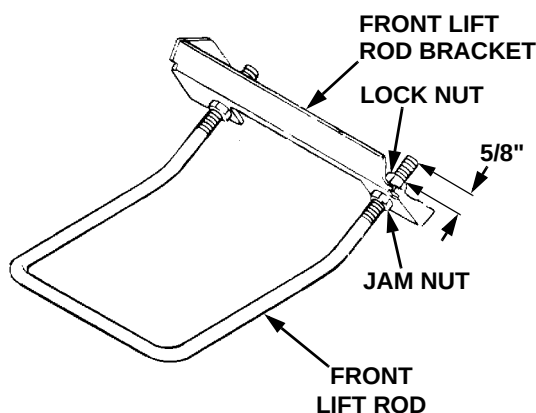

Figure 59
- If making the initial installation of the deck, adjust the front lift rod to allow $5/8$ inch of thread to protrude beyond both lock nuts of the front lift rod/bracket assembly (Refer to Figure 59).
- To adjust the downward tilt of the blades, adjustment of the front lift rod is required. Refer to Figure 59 and proceed as follows: